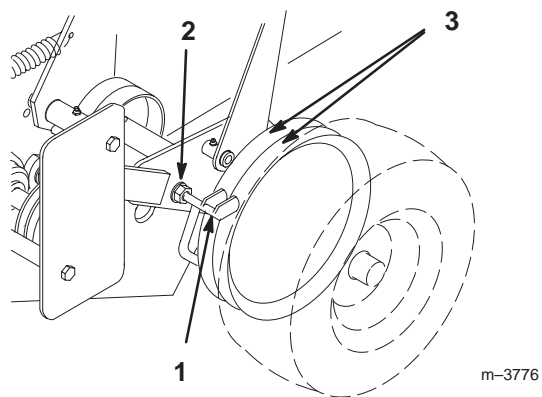

Figure 51
- Loosen the locknut holding scraper to the engine frame (Fig. 51).
- Rotate scraper until they align with center of pulley grooves (Fig. 51).
- Tighten the locknut (Fig. 51).